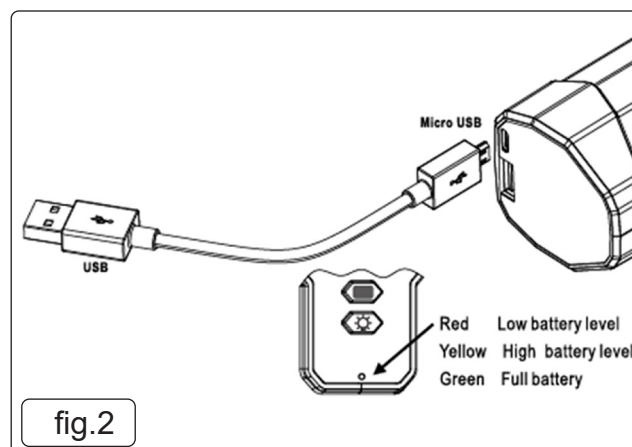

fig.2
- 4.1.1. Please charge the battery fully before use (fig.2). Especially for the first time or after it is unused for a long time. Charge for about 4 hours for full charge. Other functions of the product are not available during charging.